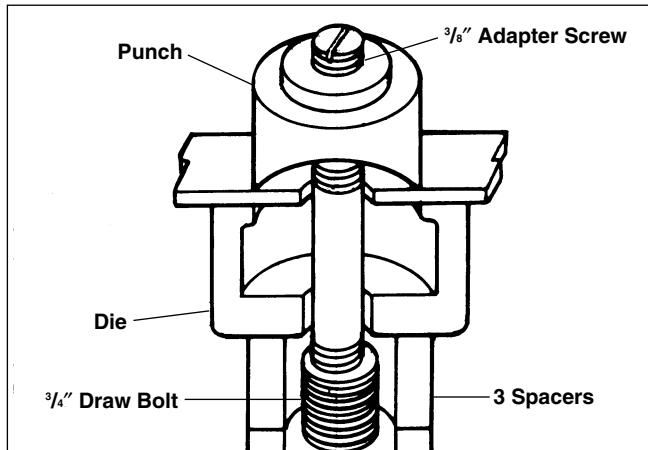

Figure 3 – Punching $\frac{1}{2}$ " Holes
5. Place the $\frac{1}{2}$ " die over the $\frac{3}{8}$ " draw bolt, pass the end of the bolt through the previously drilled pilot hole and thread the punch on the end of the bolt so that the points just touch the material (Figure 3). Operate the pump as described below.